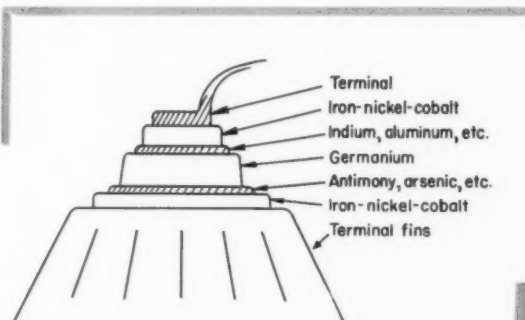

Fig. 1—Cutaway view of a germanium rectifier
**Cell Construction:** A "sandwich" formed by germanium and appropriate impurities on either side to form P type and N type comprise a germanium rectifier. To this is attached a suitable "package" to provide terminals, eliminate strains and provide a means for dissipating the heat generated. A cutaway view of a germanium rectifier is shown in Fig. 1.